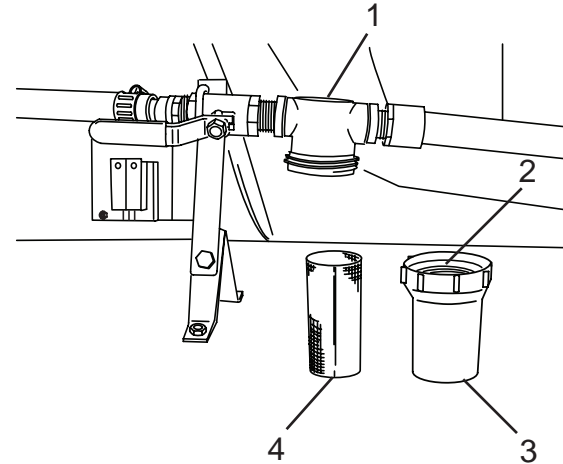

Figure 114
1. Remove (unscrew) the cup (Figure 114, Item 3), and remove the cup and strainer (Figure 114, Item 4) from the strainer head (Figure 114, Item 1).
2. Clean the strainer (Figure 114, Item 4) with clear water. Inspect the strainer. Replace if torn or damaged.
3. Inspect the cup seal (Figure 114, Item 2). Replace if torn or damaged.
4. Install the strainer (Figure 114, Item 4) and cup (Figure 114, Item 3).